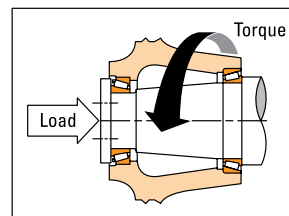

Figure 17. Measure Bearing Rolling Torque
2. Measure the bearing rolling torque (Figure 17).